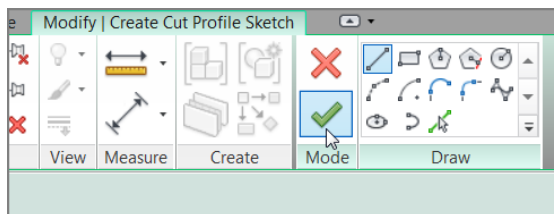
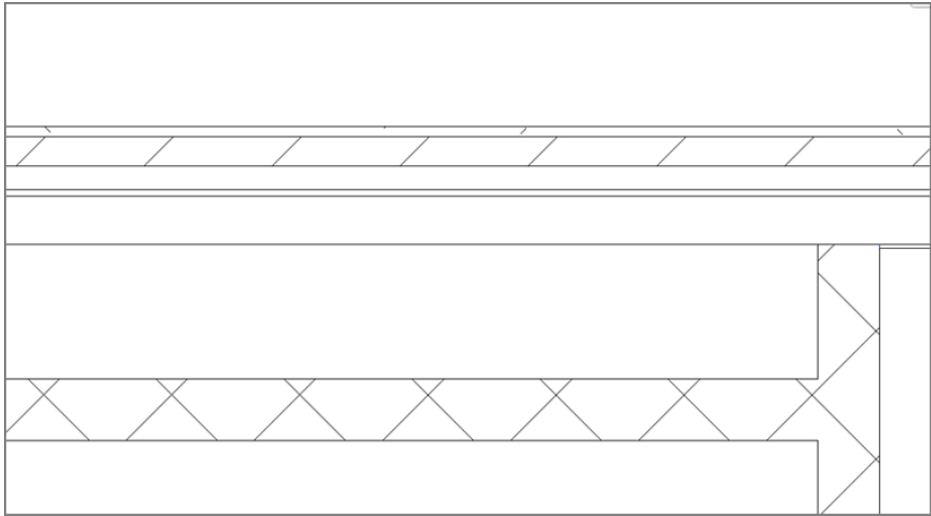

FIGURE 2.63: Clicking Finish Edit Mode finalizes the session and completes the command.
FIGURE 2.64: The finished wall with the drywall deducted from the core of the chase
9. What you see here is called Sketch Mode. Because you've finished sketching the cut profile, click Finish Edit Mode, as you can see in Figure 2.63. Figure 2.64 shows the final result.